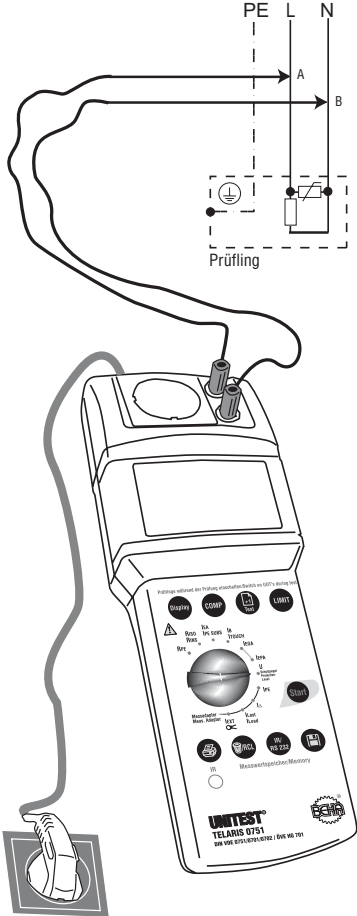

Figure 6.12: Measuring the protection level for UUTs with overvoltage protection devices between L and N
- ▶ Connect the UNITEST TELARIS 0751 via the mains plug (1) to a functional and correct wired and grounded mains socket.
- ▶ Turn the 'Measurement function' selection switch (15) to position 'VProt level'.
- ▶ When dealing with UUTs at which the overvoltage protection devices are connected between L and N, connect the phase (L) of the mains input to the red "L/N" socket (4) and the neutral conductor (N) to the blue socket (5), please refer to Figure 6.12.